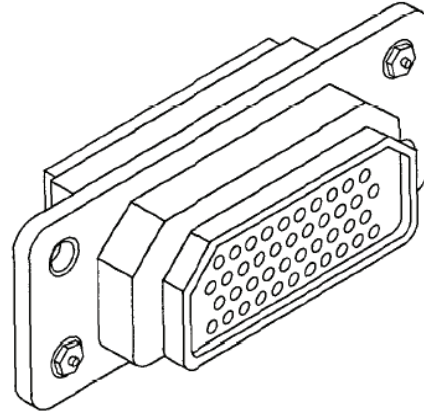

Figure 1. MIL-DTL-83733 Typical Connector
5. MIL-DTL-83733 connectors are environment and fluid resisting, miniature, rectangular, rack to panel electrical connectors, both military and commercial, having pin and socket rear release, removable crimp contacts with fixed or float mounting (Figure 1).